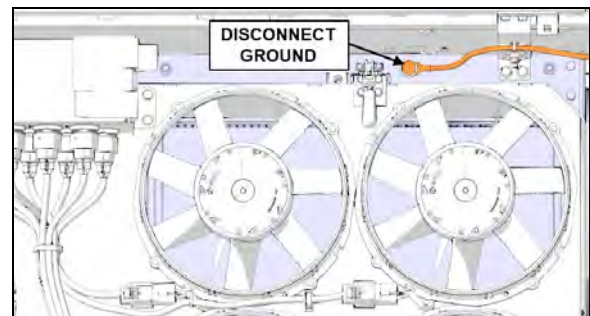

FIGURE 33: COOLING ASSEMBLY GROUND
- Disconnect the ground connection at the upper right corner of the cooling assembly (Figure 33).